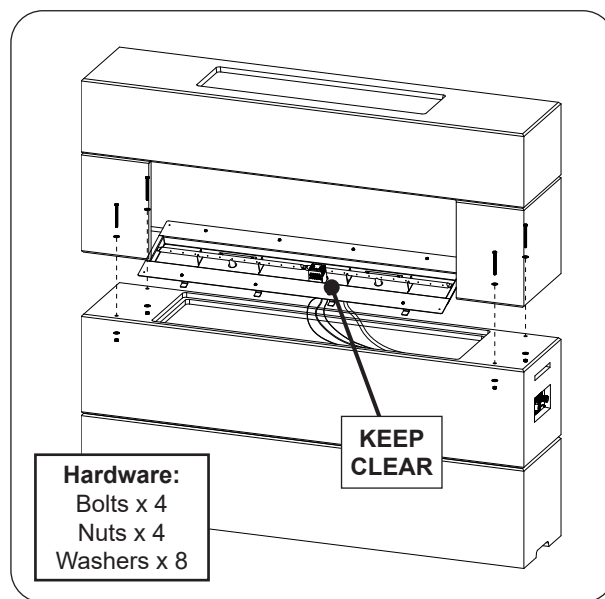

Fig. 27-3 Assemble fireplace top assembly
1. Align the fireplace top assembly over the base assembly. Insert the hardware kits in the position shown in Fig. 27-3. Hand tighten, then use two  $\frac{1}{2}$ " open end wrenches (or equivalent) to fasten.